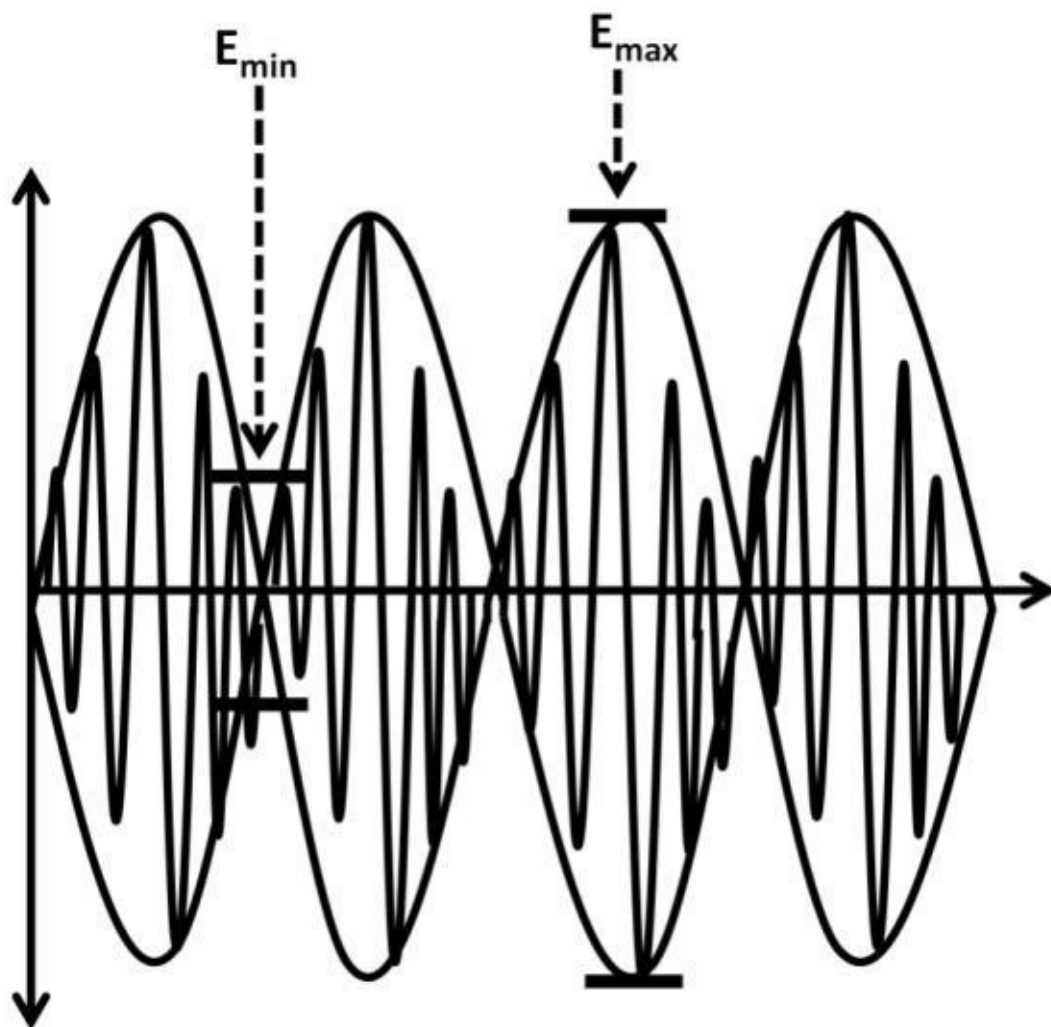

Figure 6.7a:
Amplitude modulation (AM), often used in radio system, best describes how modulation works. In the US, the AM radio is broadcast on multiple frequency bands. The range of frequencies goes from 535 KHz to 1,705 KHz. We will figure 6.6 to further understand AM. In this example, the audio signal operates at f_1 ; the sinusoidal carrier frequency operates at f_2 . We assume f_1 is also a periodic sinusoidal wave for simplicity reasons. In reality, the audio signal will be in the form of random voice (analog) signals. The minimum frequency of the carrier signal (f_2) needs to follow the Nyquist theorem, i.e., f_2 needs to be at least twice as much as f_1 . The f_1 , f_2 waveforms are shown in figure 6.6. By adding f_1 and f_2 together, the modulated signal can be obtained (see figure 6.7). This signal contains the original information and the carrier signal running at higher data rate than the original signal (f_1). Note that the amplitude of the modulated AM signal changes with the f_1 's amplitude. The modulated signal is enclosed with a sine wave shape, the AM envelope. The AM envelope is not actually present in the modulated signal. It characterizes how well the modulated signal is created. To determine the quality of the modulated output signal, some criteria such as modulating index or the modulation factor are used. Figure 6.7a on the next page shows E_{\min} , E_{\max} , the minimum and maximum peak-to-peak levels.